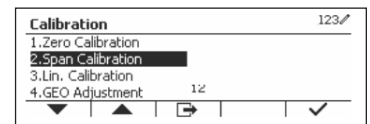

Figure 7
5. Exit Zero Calibration by pressing the softkey corresponding to the ✓ icon. (See Figure 7)